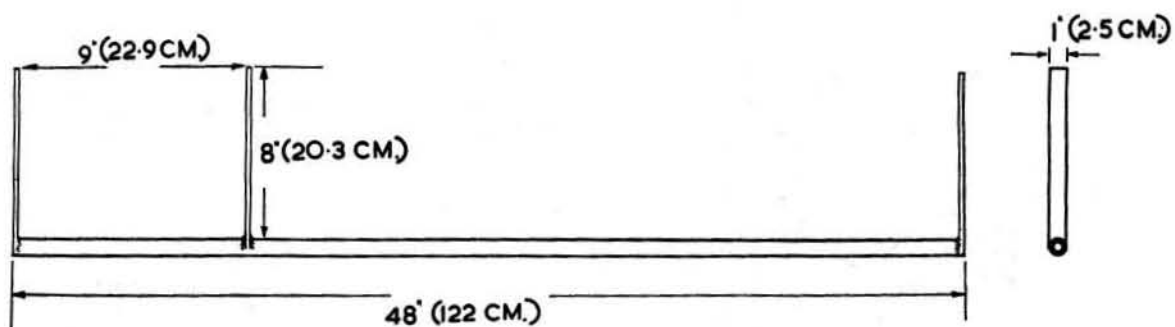

Fig. 7.7. Jig for checking alignment of divided propeller shaft
- 1 Make up a jig to the dimensions shown in Fig.7.7. We made up a jig, using materials ready to hand which did the job admirably. It consisted of a length of wood 3" x 1½" (but any size of wood will do as long as it is not flexible), into the edge of which was knocked three 6" nails, to a depth of about 1", at the spacing shown on the drawing, this meant that the 8" vertical dimension was undersize but clearance proved to be adequate. The nails were checked for vertical alignment and then a straight edge was placed along the heads to make sure that they were aligned in the horizontal plane.